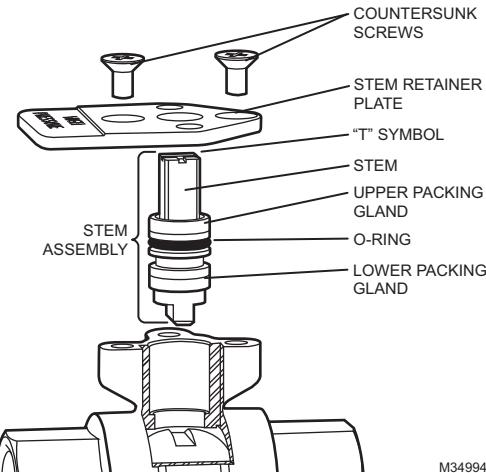

Fig. 34. Replacing the valve stem in-line.
The valve stem can be replaced in-line, if necessary. See Fig. 34.
- Slide the sub shaft over the stem with the tab oriented as shown in Fig. 34.